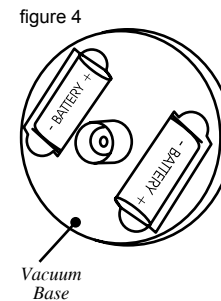

figure 4
4. Install two new “C” type batteries into the Battery Compartments of the Vacuum Base, following the imprinted battery diagram inside the Battery Compartments (figure 4).